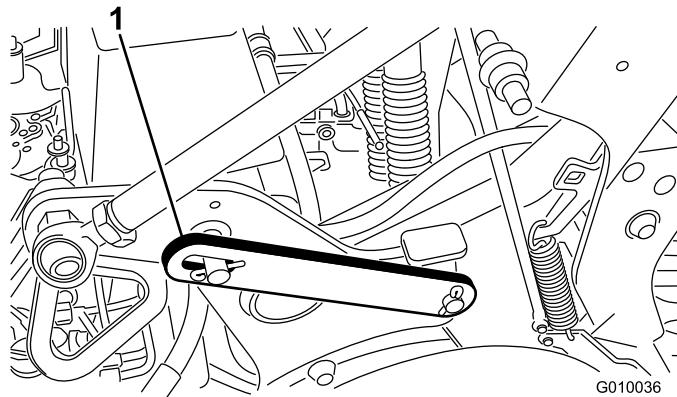

Figure 21
2. Remove the clip ring securing the service latch in the storage position (Figure 21).